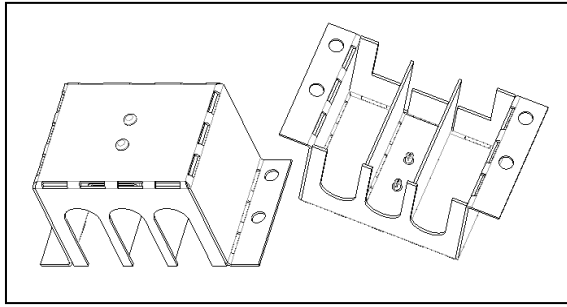
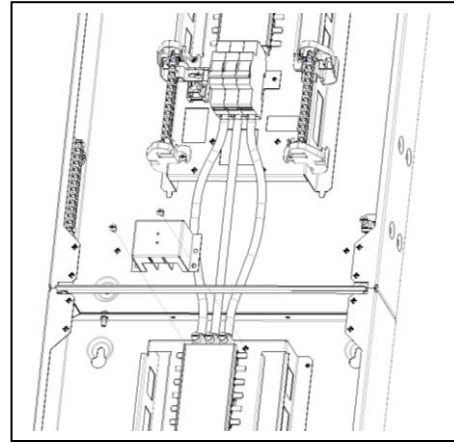

Fig.1.3
Fig.2.0
- Connect phase cables to busbar of lower board using the terminal cages supplied, note – cable ends to fit underneath busbar ends. Connect other end of phase cables to incomer of upper board (Trim length and re-ferrule cable if required). Take the unfolded riveted shroud supplied and fold up where the perforations are as shown in Fig 1.3. Fit shroud supplied ensuring phases are separated by phase barriers. – see Fig.2.0.